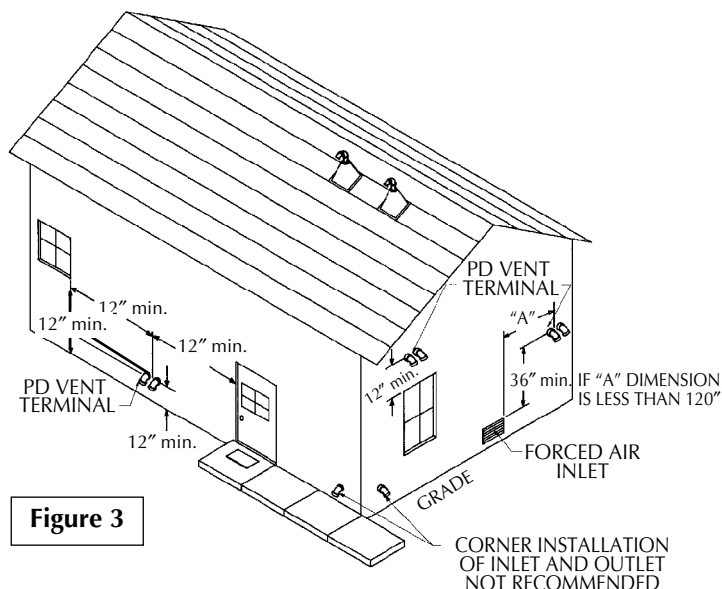

Figure 3
- The Power Direct Vent outlet terminal shall terminate at least 36" above any forced air inlet located within 10 feet. Figure 3.
- The Power Direct Vent outlet terminal shall terminate at least 12" below 12" horizontally from or 12" above any door, window or gravity air inlet into the building. Figure 3.